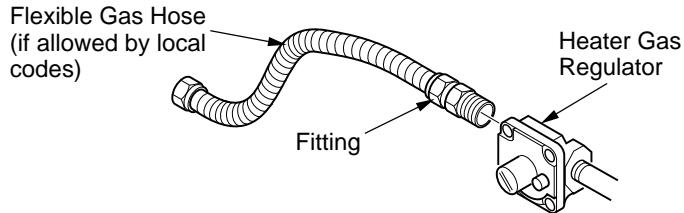

Figure 12-Attaching Flexible Gas Hose to Heater Gas Regulator
1. Apply pipe joint sealant lightly to male threads of the fitting to be threaded into gas regulator. Connect approved flexible gas hose to gas regulator of heater (see Figure 12).